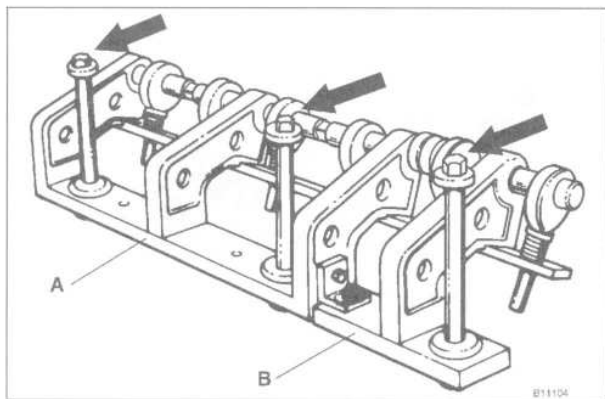

Fig. 26. Special BMW tool no. 11 3 260 (A) with adaptor 11 3 270 (B). Tool mounting bolts (arrows) thread into spark plug holes.
- With the cylinder head mounted to an appropriate work stand, remove the spark plugs and install BMW special tool 11 3 260/11 3 270 to the top of the cylinder head. Do not over tighten the tool mounting bolts in the spark plug holes. See Fig. 26.